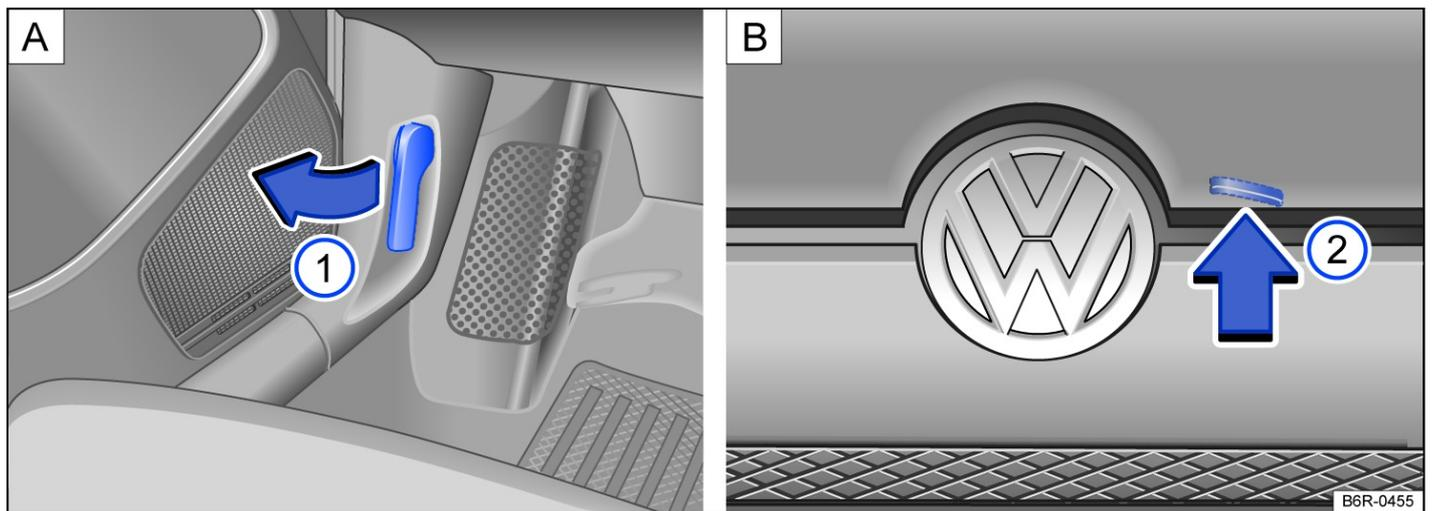

Fig. 1 **A** In the left footwell: bonnet release lever. **B** Above the radiator grille: bonnet opening lever.
- Open the driver door and pull the release lever in the direction of the arrow → Fig. 1 **A**. The bonnet is released from the lock carrier catch by spring force → ⚠.
- Lift the bonnet slightly and at the same time press the opening lever in the direction of the arrow → Fig. 1 **B** to fully open the bonnet.